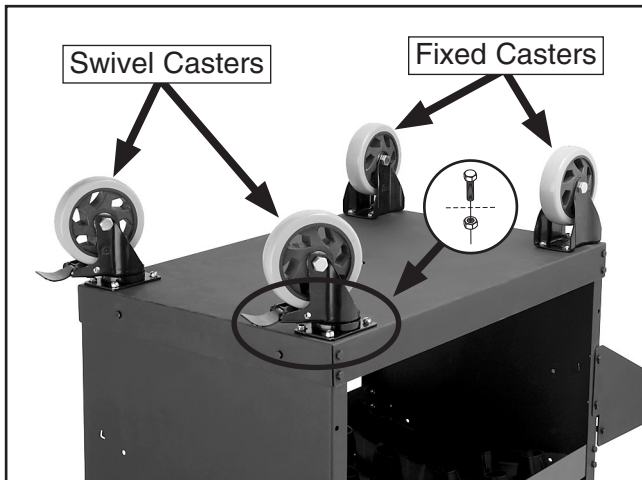

Figure 11. Casters installed.
8. With assistance, turn the cart upside down and install the casters with 16 hex bolts and lock nuts, as shown in **Figure 11**.